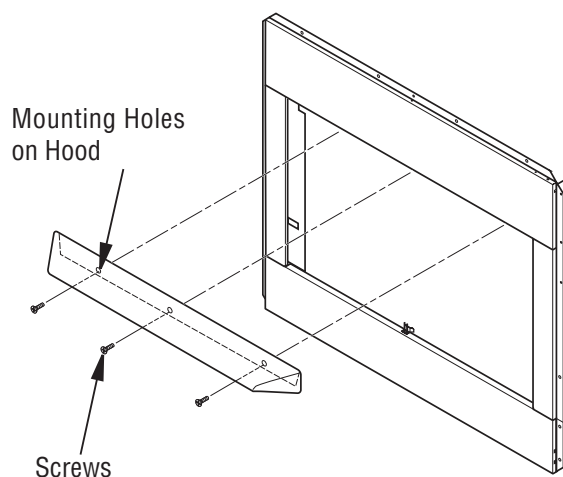

Figure 7 - Installing Hood
2. Align three mounting holes located on back side of hood with front face of fireplace (see **Figure 7**). Mounting holes should be at least 2" up from edge of fireplace opening.